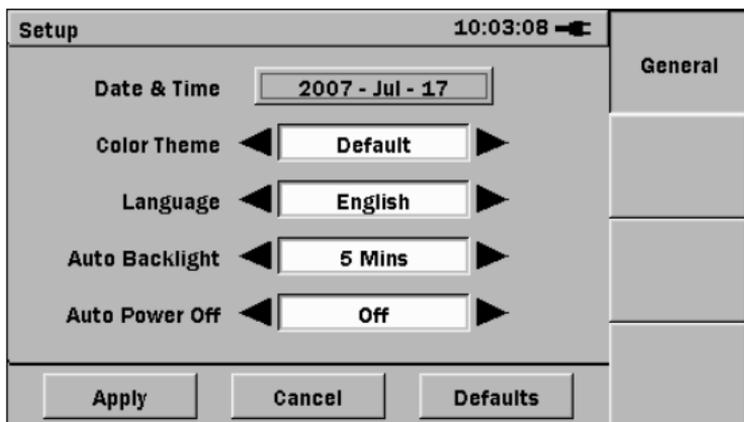

Figure 3-8: General Setup screen as accessed from Top Menu
3. Press the **Set key**. The General Setup screen appears (see Figure 3-8).